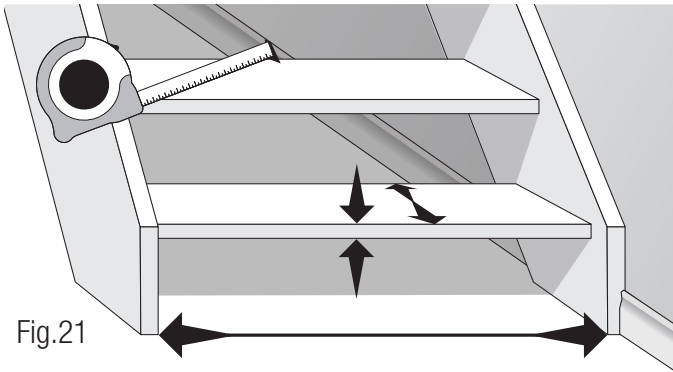

Fig.21
2. Always fully cover one step at a time, carefully measuring the width, depth and thickness before making any cuts. Ensure that the thickness of the existing stair tread is not thicker than 1-1/8" (28mm), trim its thickness as necessary so the bullnose will fit. Refer to Figure 21.